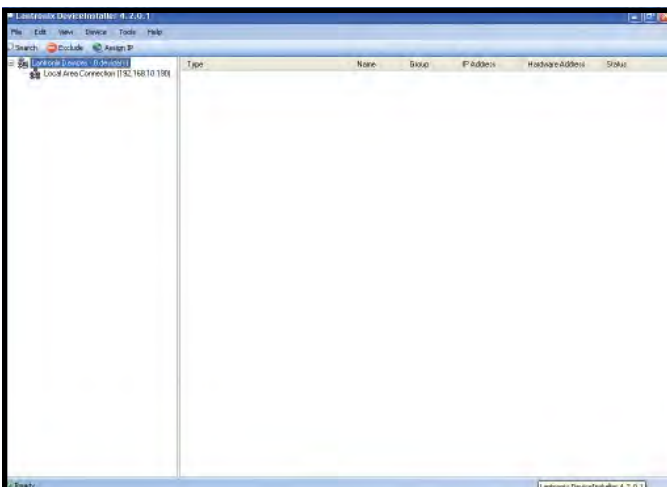

Figure 4. DeviceInstaller home screen
1. Open the Lantronix DeviceInstaller program. The home screen will open (see Figure 4).